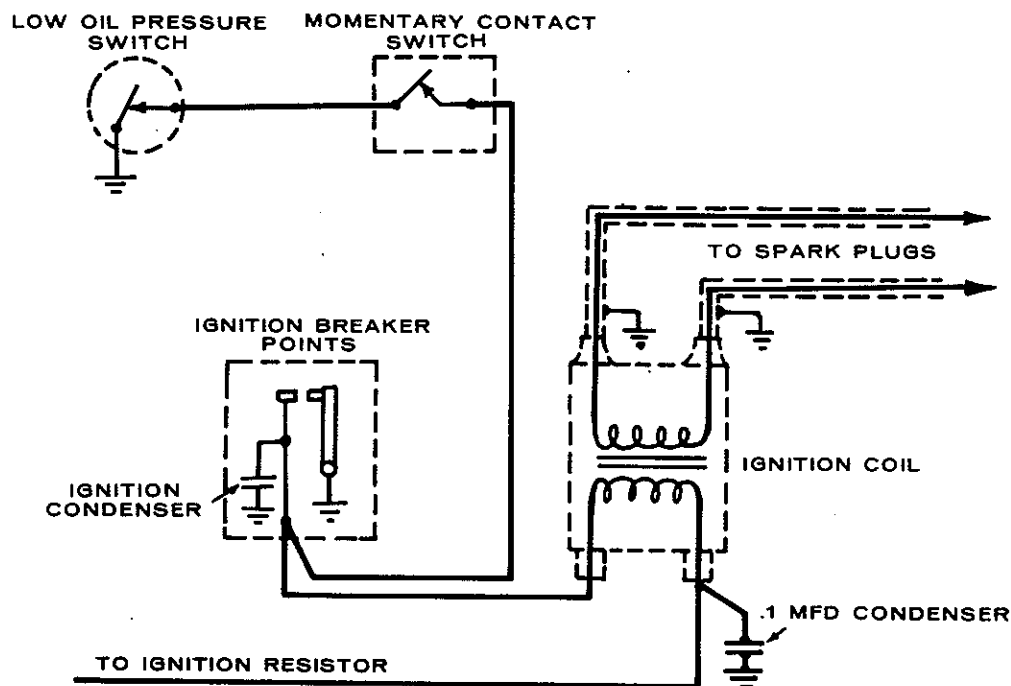

FIGURE 12-13. TYPICAL CCK INSTALLATION
6. Measure correct wire lengths needed; make electrical leads and wire as shown in Figure 12-13.